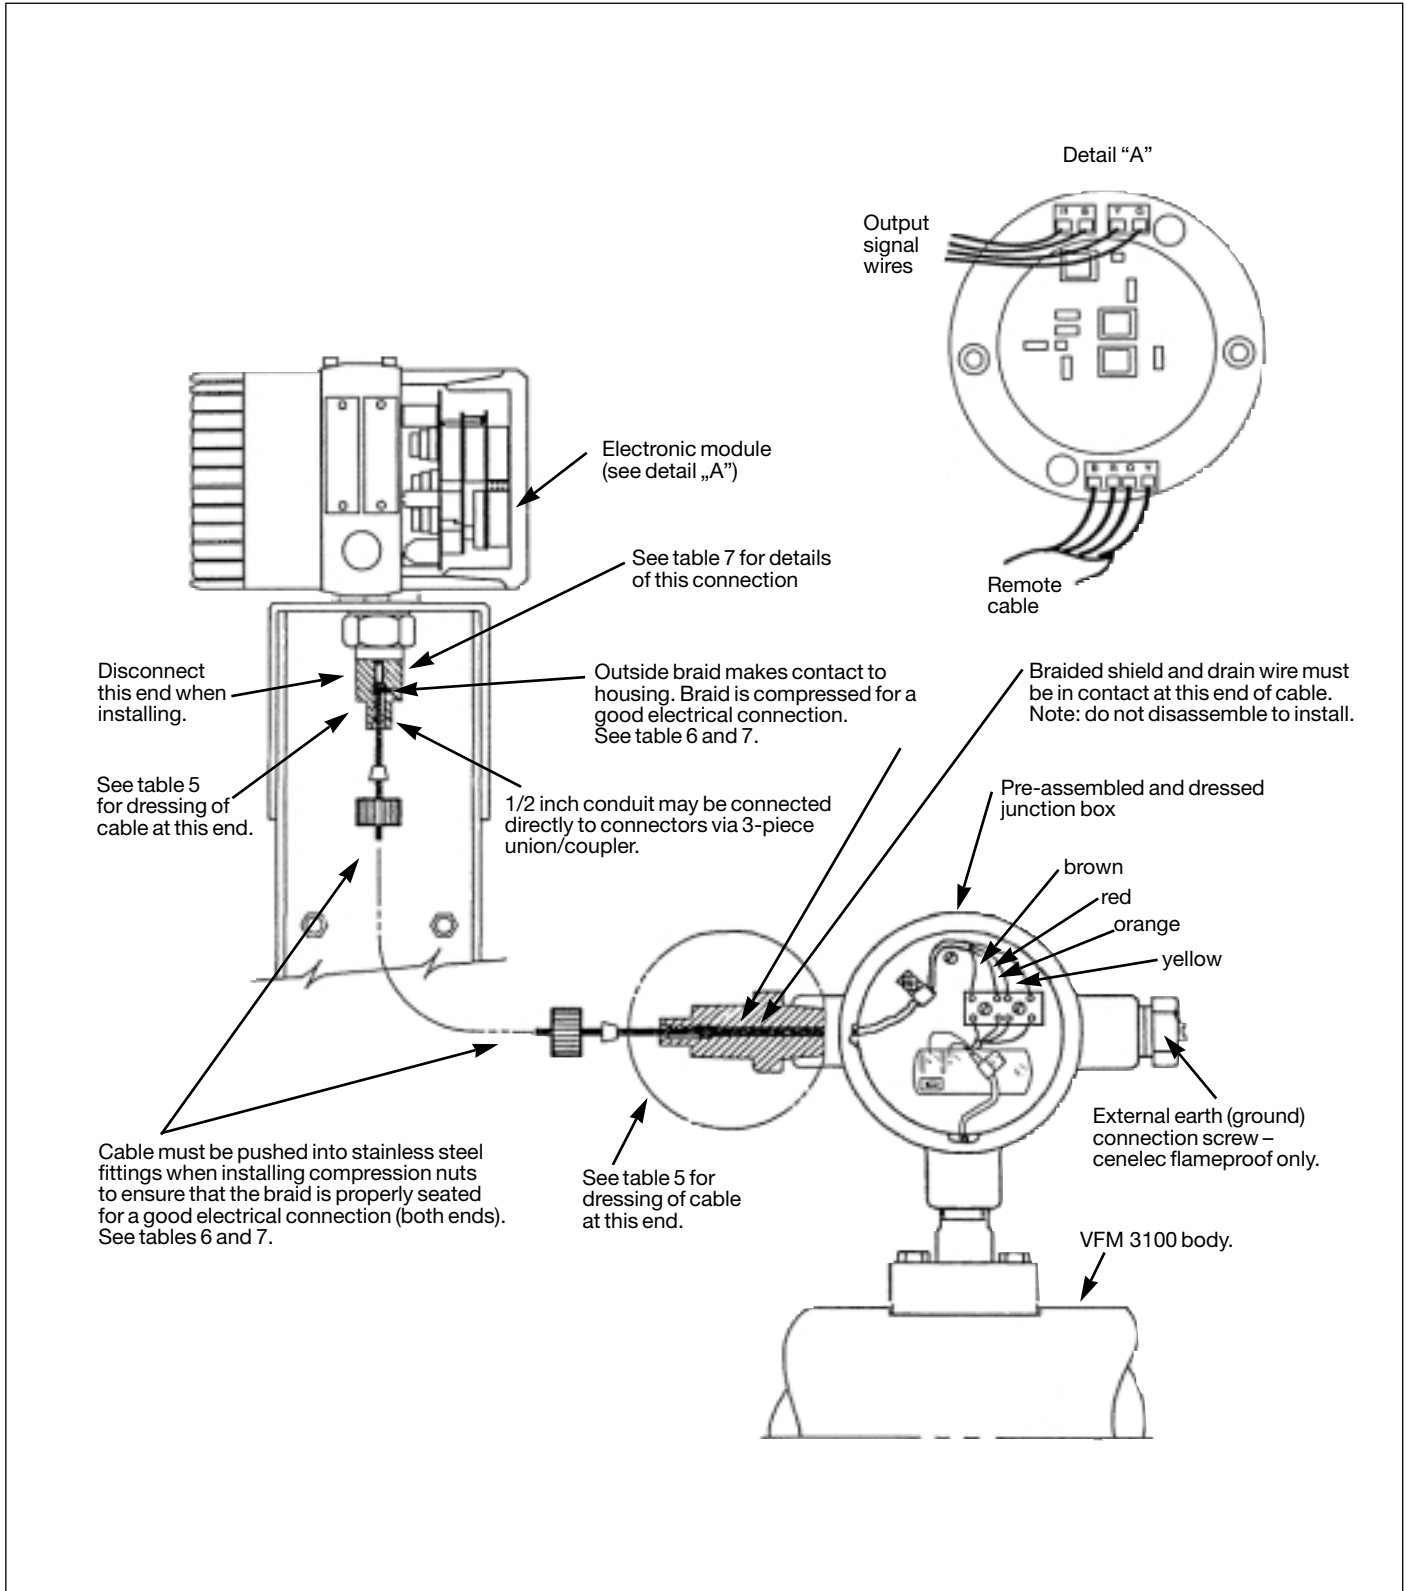

Figure 9. Overall View of Remote Mounted VFM 3100
- A VFM 3100 body with junction box. The junction box contains a preamplifier assembly. Refer to Figure 9.
- Disconnect the four remote signal wires from the four position terminal block on rear of the electronic module. See Figure 9.
- Inside the electronic housing, connect the four remote signal wires to the color coded 4-position terminal block on the rear of the electronic module. See Figure 9 on Page 16.
17 and 18. Terminate wires at J-Box following Figure 9 on Page 16. At housing end, wires should be terminated at 4-position terminal block on rear of electronic module as shown in Figure 9.
- The junction box side of the remote configuration is pre-wired. Add flameproof cable gland or E-Y fitting and conduit directly to the special Foxboro adapter or via an approved CSA/UL 3-piece union/coupler, if necessary. For this reason, the second conduit plug is fitted with a grounding screw (see Figure 9).
Follow the color-coded label. See Figure 9 on Page 16.